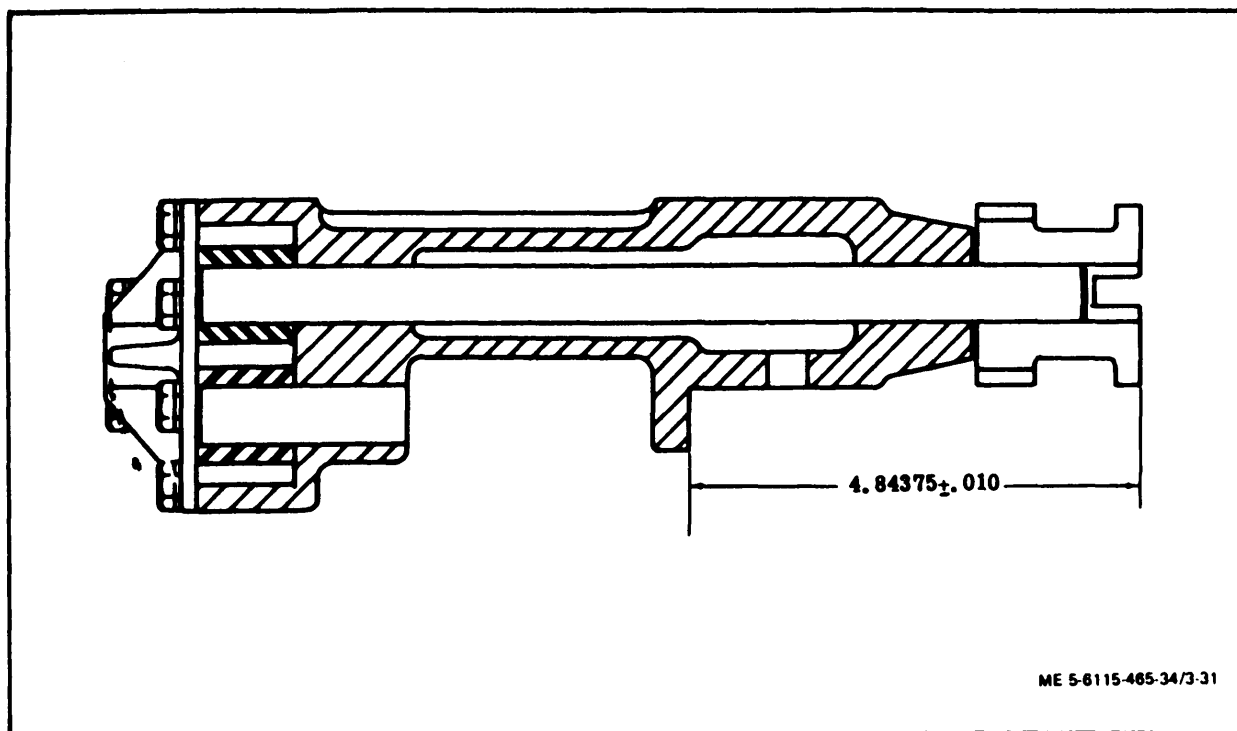

Figure 3-31. Oil Pump Assembly Dimension
(2) Insert shaft into pump body (22) and press gear (12) onto shaft until a dimension of 4.84375 ± 0.010 inches is obtained between the mounting flange and the top of the drive flange (figure 3-31).